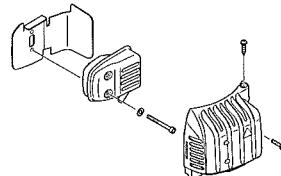

Fig. 16
**Cleaning the muffler (Fig. 16)**